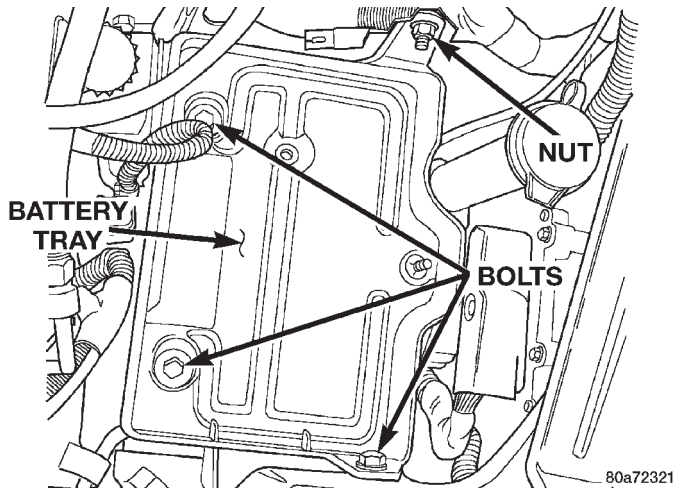

Fig. 24 Battery Tray Mounting
- (1) Remove the positive and negative cables from the terminals on the battery.
- (2) Remove the cover from the battery.
- (3) Remove battery from battery tray.
- (4) Remove the battery tray. The battery tray is mounted using the 3 bolts and nut as shown in (Fig. 24).
(9) Install the battery tray. Install and securely tighten the 3 bolts and the nut, (Fig. 24) mounting the battery tray.
(10) Install the battery.
(11) Install the cover on the battery.
(12) Install the positive and negative cables on the terminals of the battery.
(13) Raise the vehicle to a point where the front tires are just off the ground.